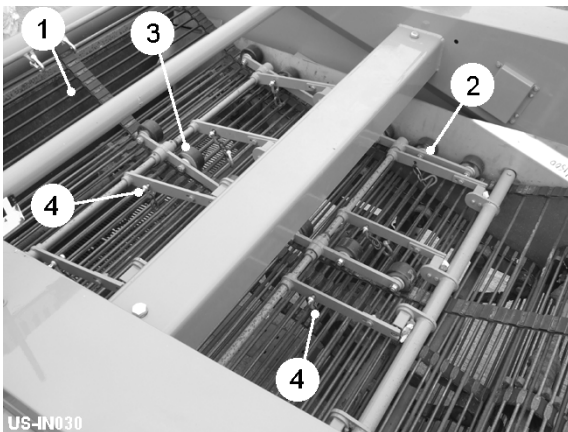

Fig 10
The draper web (item 1, fig 10) mounted above the 4th web assists separation. In work, the web is raised/lowered using the control box switch marked 'draper web'. Lowering the draper web increases the pressure on the 4th web and thus increases the separation. The front and rear sets of damper rollers (item 2 & 3, fig 10) hold the draper web down. Lowering the dampers rollers will increase the pressure exerted on the 4th web. The front and rear damper arms are linked via an adjustable stay located behind the RH rear guard door. The stay enables the operator to manually adjust the height of the damper rollers. Too much pressure or too little height, may cause soil build-up in front of the 4th web.
Additional height adjustment can be obtained by relocating the shackles (item 4, fig 10) onto a different web bar.